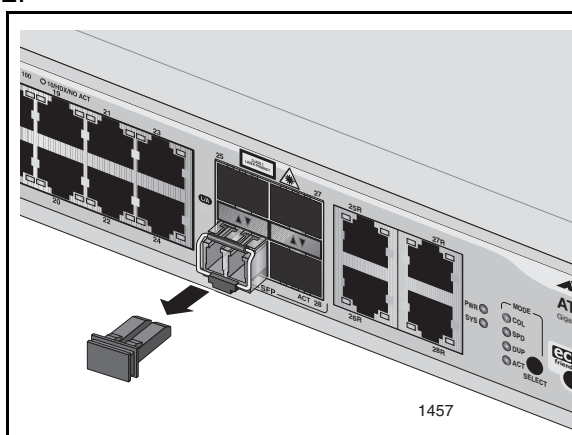

Figure 12. Removing the SFP Dust Cap
4. Remove the dust plug from a transceiver slot on the switch, as shown in Figure 12.
5. Verify that the handle on the SFP transceiver is in the upright position, as shown in Figure 12, to prevent inadvertently removing the transceiver.